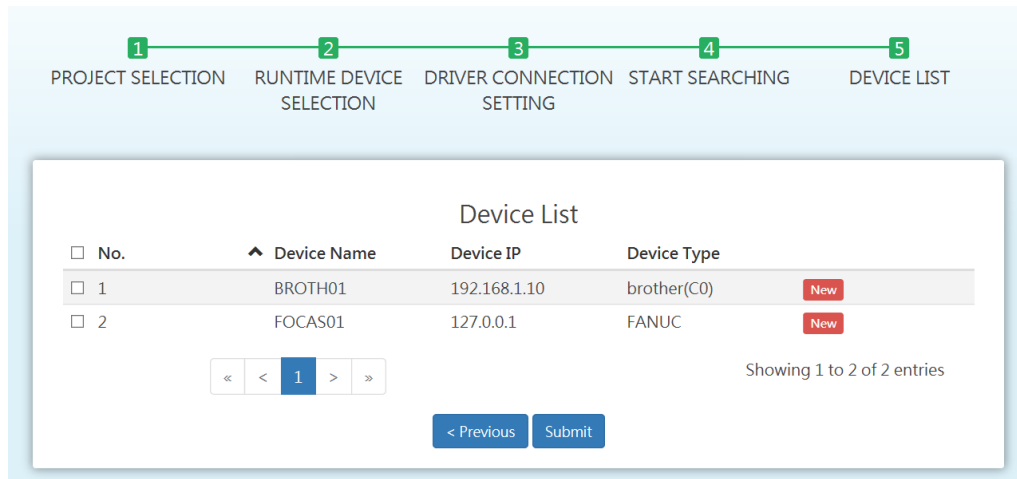

Figure 2.8 Device List
- **Device List:** After connected CNC devices have been detected, you can submit the selected CNC devices to automatically generate a WebAccess project. If you click the device you want, it will be generated in this project; unclicking a device will delete it from the current project (see Figure 2.8).